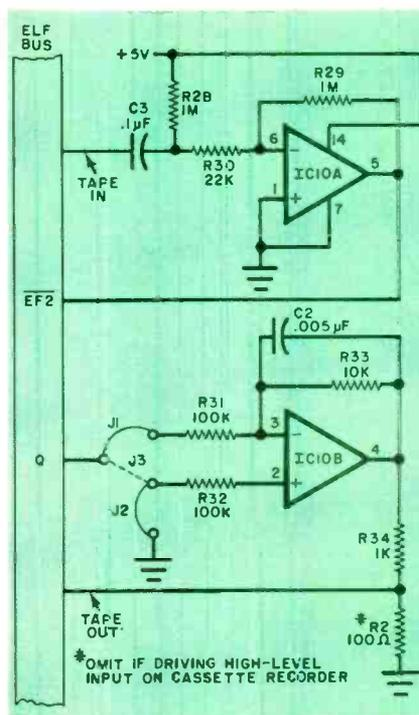

Fig. 2. Read and write circuits. Jumpers select signal polarity.
**Cassette Read/Write.** This simple circuit (Fig. 2) uses the Q and EF2 lines on the Elf II bus. When executing the tape write function, the monitor produces a 10-second train of sync pulses followed by the serial output of data (plus parity) on the Q line from the memory boundaries selected. Resistors R34 and R2 form an attenuator that provides adequate record level for the tape recorder used. If your tape recorder has a microphone input, the typical value for R34 would be about 1000 ohms. If your